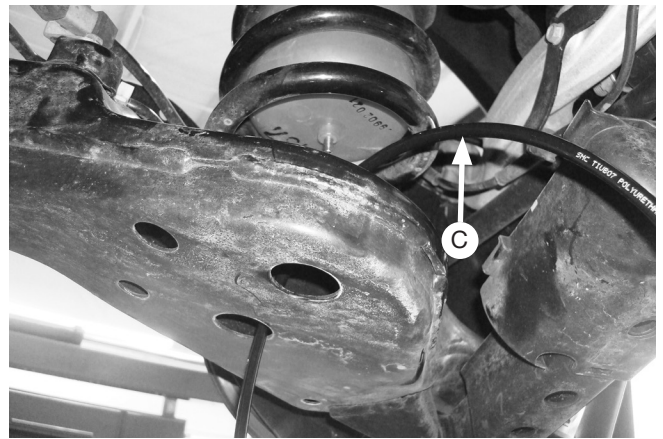

Fig. 4
3. When the air spring is completely in the coil, remove the black plastic cap and allow the air spring to assume its “as-molded” shape. Push the cylinder to the top of the coil spring (Fig. 4).
4. From the bottom up, insert the air line (C) through the outside hole in the lower spring seat, then up through the center spring seat hole (Fig. 4).